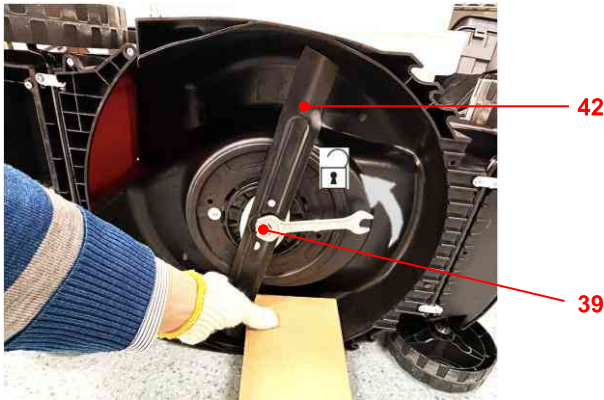

Fig. 2
- Loosen the mounting bolt (39) counterclockwise using a suitable electric impact wrench (socket size 16 mm); remove it with the spring washer (40), flat washer (41) and cutting blade (42) (Fig. 2).